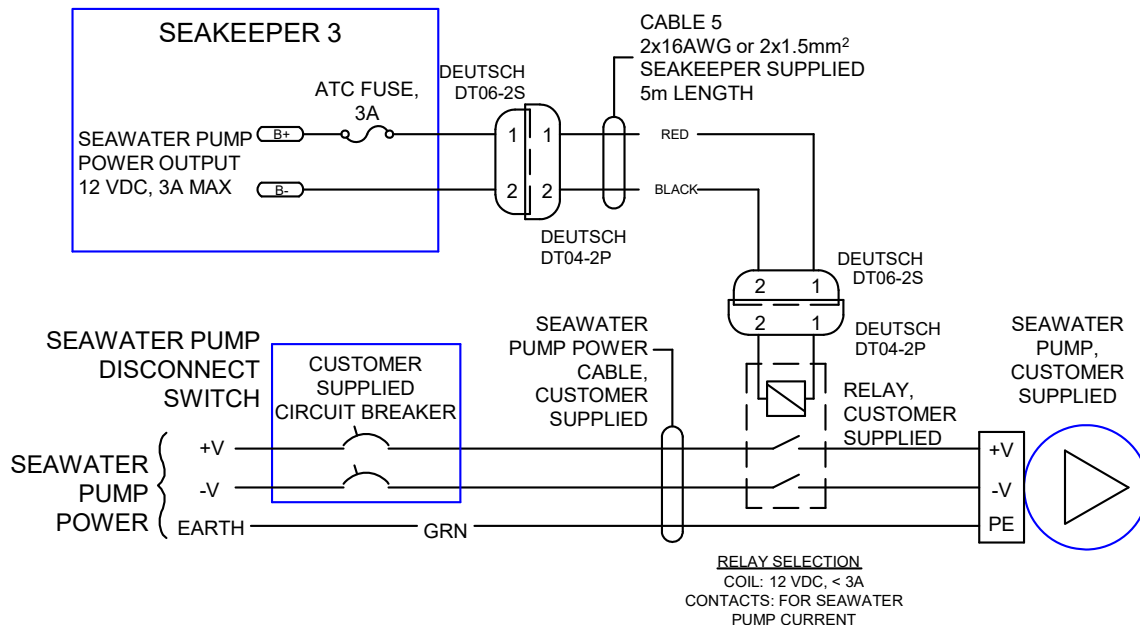

FIGURE 9 – RECOMMENDED WIRING FOR SEAWATER PUMPS NOT 12 VDC OR NOT 3A MAX
- iii. The recommended wiring is shown in Figure 9. Refer to Figure 7 for Cable 5 wire connections.